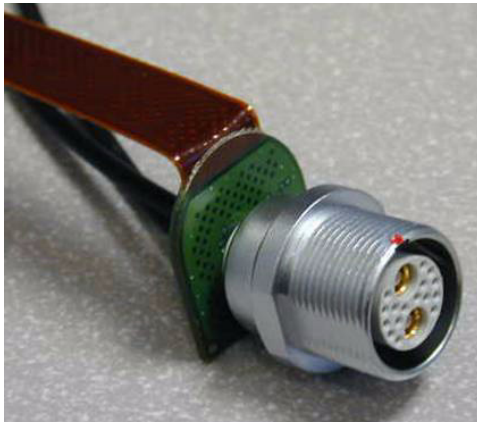

Figure 6-20 Creating a sharp bend
- Create A sharp bend (Figure 6-20): The flex circuit must be bent at a right-angle where it meets the printed circuit board. It can only be bent after heat has been applied to it (i.e. using a hot-air gun, or a similar device)